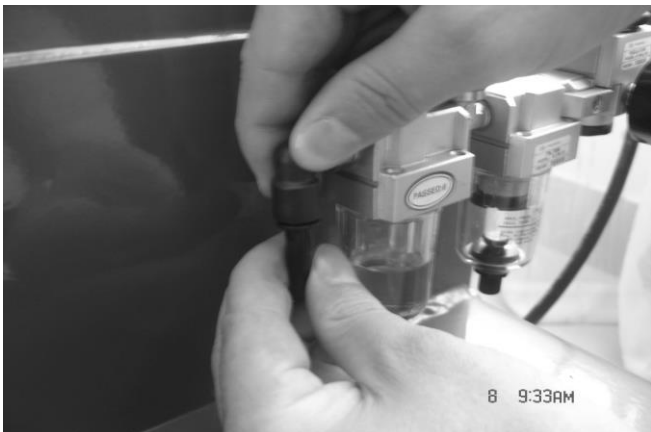

Fig4-11
4.2.13 connect the air hose, detach the union on the $\phi 8$ PU hose on the side of body. This union is for the purpose to keep the air hose from falling into the body. Insert the union in front the air regulator see Fig4-10/Fig4-11.
Embed the inflation gun or inflation gauge box into the groove of the open nut on the air regulator (Fig4-11) . Tighten the open nut and connect the air route.